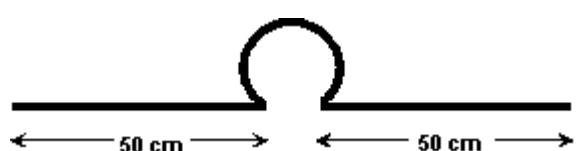

Figure 2. Counterpoises
1. Take Dielectric plate (1) and install Vibrator (2) on the plate. Use clamps or hard wire for this.
2. Install Tinned plate (4) on the Dielectric plate. Use Stud, washers, screw - nuts (6).
3. Do Matching spool (3). The spool has 9 turns of 1.5...2.5-mm diameter (# 14- 10 AWG) copper or silvered plate wire. ID of the spool is 15...18-mm, RA1TW use to old markers as a form for the spools. Length of the spool is 34-mm.
5. Do counterpoises. Two 105-cm lengths of copper or aluminum wire of 4...6-mm (# 2...6 AWG) are bended as a Greek letter OMEGA looks (see **Figure 2**).